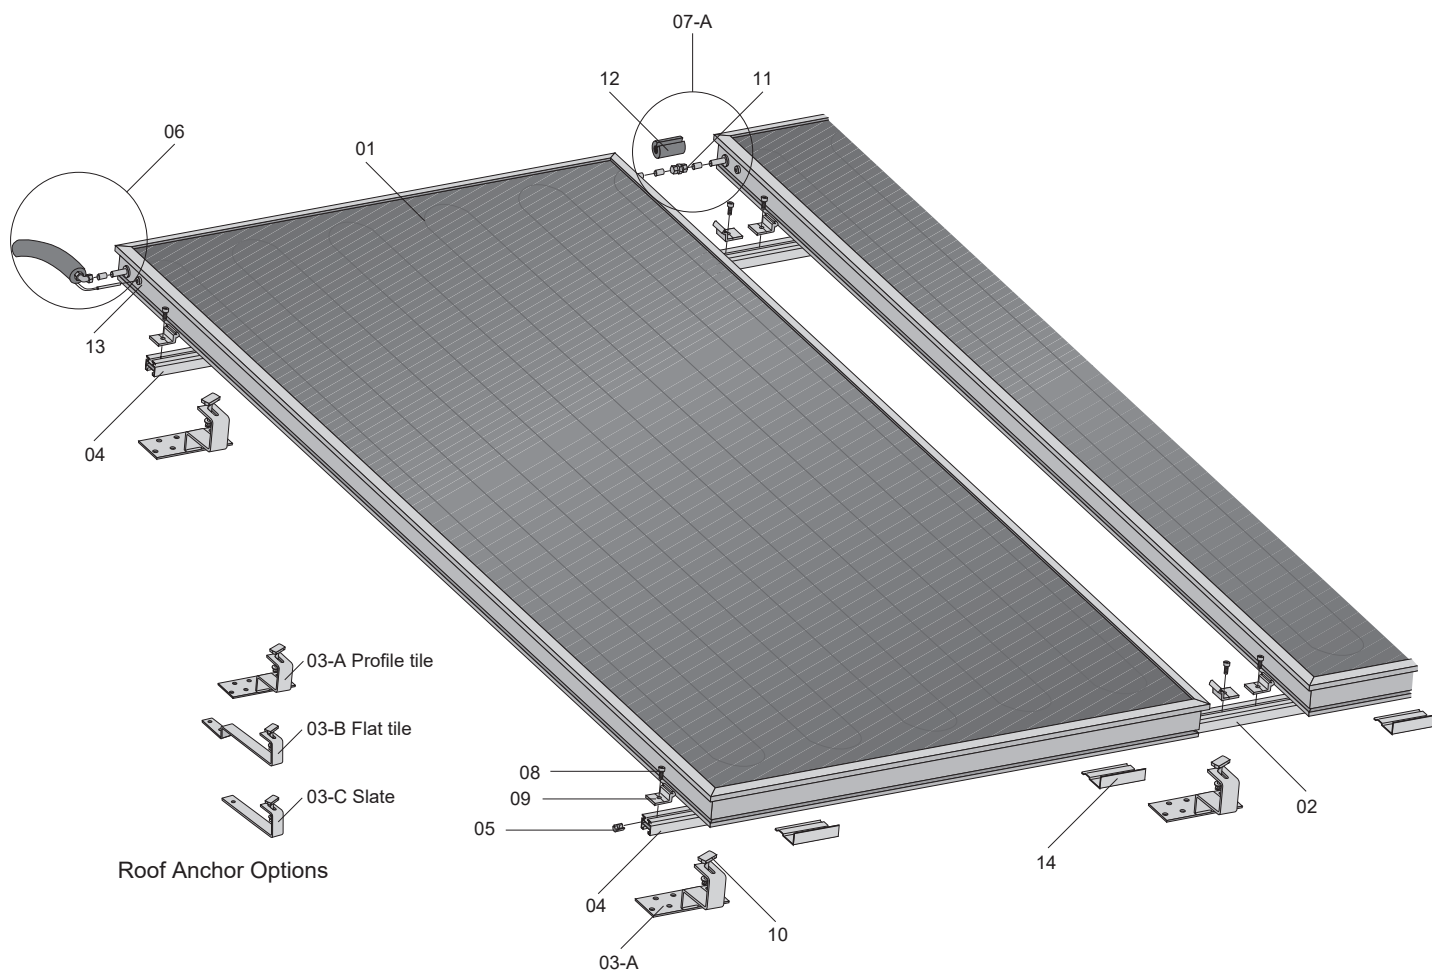

Figure 4-2: Installation Summary, Vertical Solar Collector Layout
Table 4-1: Key to Figure 4-2
3. Refer to Figures 4-2 and 4-5. Place roof anchor (03-A) in line with the top edge of the roof tile in the tile valley. Fix the base plate of the roof anchor to the rafter with screws (16).
3. Refer to Figures 4-2 and 4-8. Place roof anchor (03-B) in line with the top edge of the roof tile. Fix the roof anchor to the rafter with screws (16).